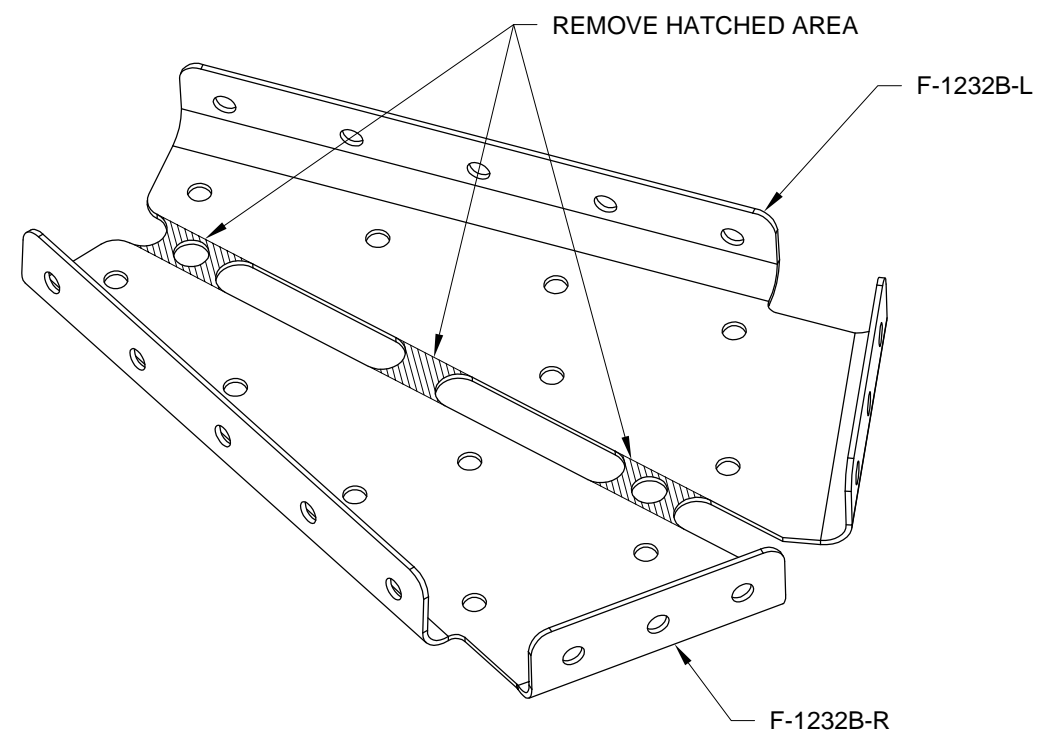

FIGURE 3: BREAKING APART THE ROLL BAR BRACE BRACKETS
Step 8: Remove the hatched areas shown in Figure 3 to separate the F-1232B Roll Bar Brace Bracket into left and right parts.